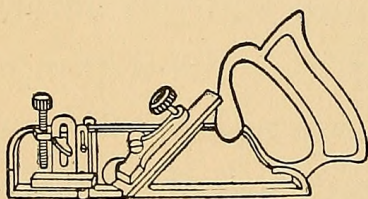

FIG. 23. — Dado-plane.
**Dado-plane** (Fig. 23), which is made for *grooving* (Fig. 75, page 59). As the plane-stock of the dado-plane must be of the same size as the cutter, it is necessary to select one having the width of cutter for which you will have the greatest need, for you will not likely wish to purchase more than one dado-plane. Of course, if you live near a mill, you can get all of your rabbeting and grooving done there, and it will hardly pay you to bother with it, or to purchase these tools.